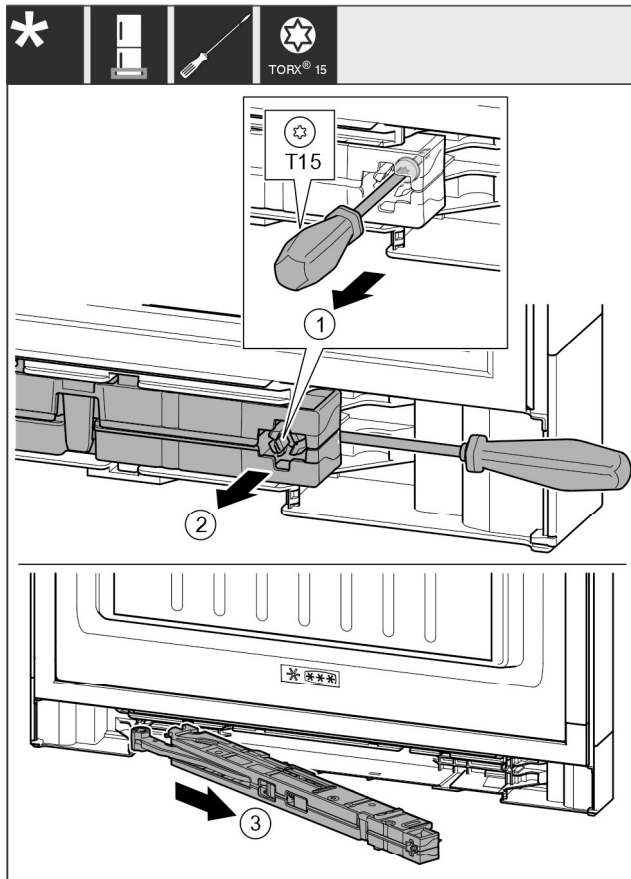

Fig. 18
- ▶ Loosen the screw Fig. 18 (1) on the closing damper unit with a 14 mm (9/16 in) screwdriver.
- ▶ Use the screwdriver to lift out the closing damper unit Fig. 18 (2) on the handle side.
- ▶ Pull out the closing damper unit Fig. 18 (3).